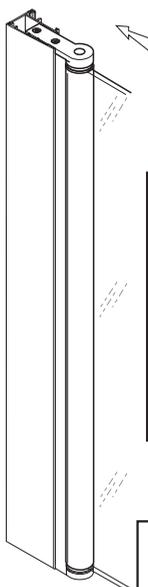

Figure 8a
2. Slide the Hinge support member into the wall until it is level with the widest face of the wall profile, (Fig 8a).